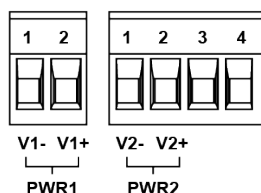

Figure 1
1. Insert the positive and negative wires into the **PWR1 (V1+, V1-)** and **PWR2 (V2+, V2-)** contacts on the terminal block connector as shown below in Figure 1.